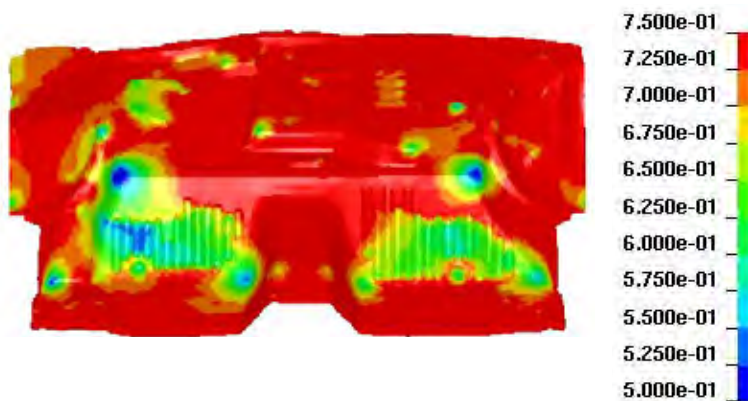

Figure 5 Sheet Thickness Prediction ($t_0=0.75\text{mm}$)
*MAT_024 was used. On a 1 CPU Linux machine, it took 4 min. to complete the run with 4 steps total. Thickness, plastic strain, and blank size prediction were reasonable, as shown in *Figures 5~7*.